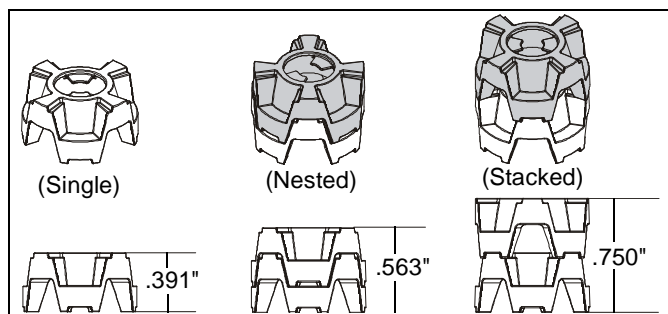

Figure 6
NOTE: The nesting spacers (G) may be used separately, or put two together in different configurations to create different size spacers. (See Figure 6)